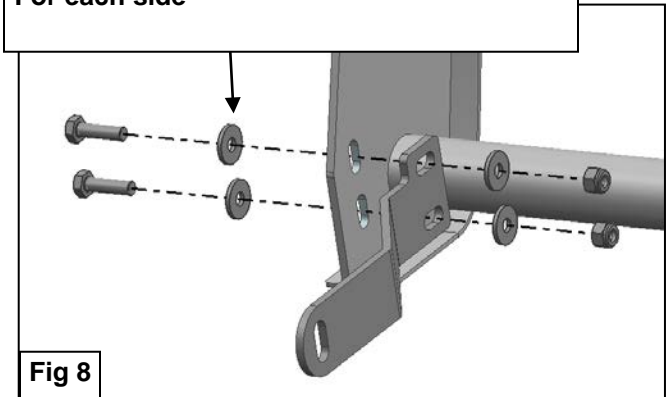

Fig 8
6. Attach the Lower Mounting Bracket to the Grille Guard with (4) 10mm x 35mm Hex Bolts, (8) 10mm x 27mm OD x 3mm Flat Washers and (4) 10mm Nylon Lock Nuts **(Figure 8)**.